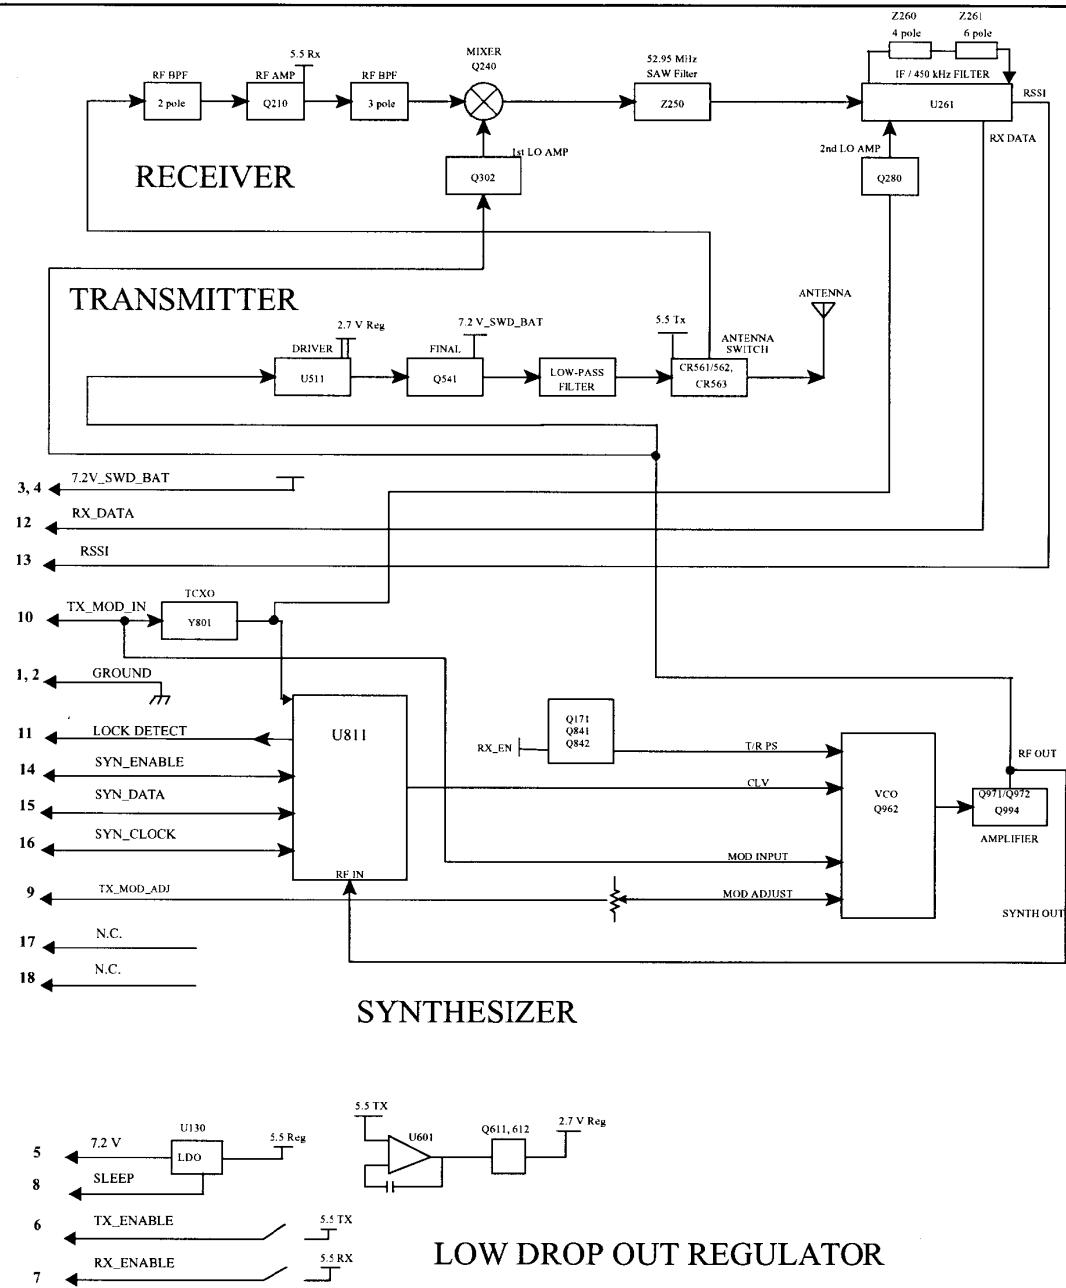
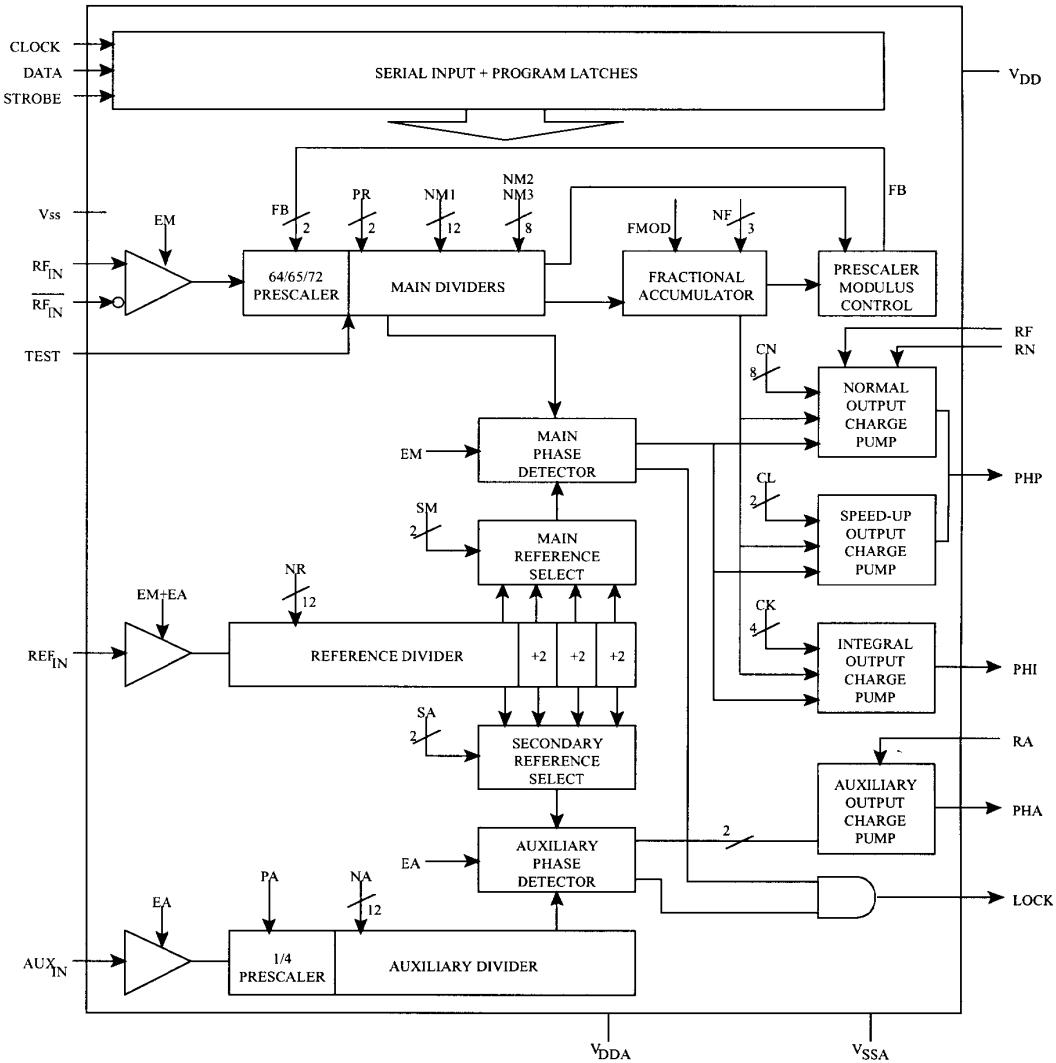

Figure 4-1 DATA TRANSCEIVER BLOCK DIAGRAM
Figure 4-2 U811 SYNTHESIZER BLOCK DIAGRAM
The DM-3473 consists of a low dropout regulator power supply, frequency synthesizer and VCO (voltage controlled oscillator), 2 watt RF power amplifier, and dual down conversion FM receiver. A block diagram of the transceiver is located in Figure 4-1 and shows the four major sections of the unit.
Channels are selected by programming counters in U811. Section 3 of this manual shows how to program the Phillips SA7025A Frequency Synthesizer for the DM-3473. This programming is performed over a 3-wire serial bus formed by pins 14, 15, and 16 of user interface J201. These pins are labeled Synth Enable, Synth Data, and Synth Clock. This programming is supplied by customer hardware and software interface equipment. A block diagram of the synthesizer/VCO is shown in Figure 4-1 along with a block diagram of the Phillips synthesizer IC SA7025A in Figure 4-2.
The receiver on the 3473 is a FM dual down conversion superheterodyne topology. Dual down conversion means that the receiver has two intermediate frequencies (IF) of 86.85 MHz and 450 kHz. The first local oscillator (LO) is high side injected 86.85 MHz above the desired receive frequency. This is the function of the VCO in receive mode. The design also incorporates two discrete bandpass filters to reject image and other wideband frequencies. A surface acoustic wave (SAW) filter is implemented in the first IF to enhance receiver selectivity. 10 poles of filtering are used in the second IF to further improve selectivity and to set the IF bandwidth of either 12.5 kHz or 25 kHz. Figure 4-1 shows the receiver block diagram for the 3473 radio module.